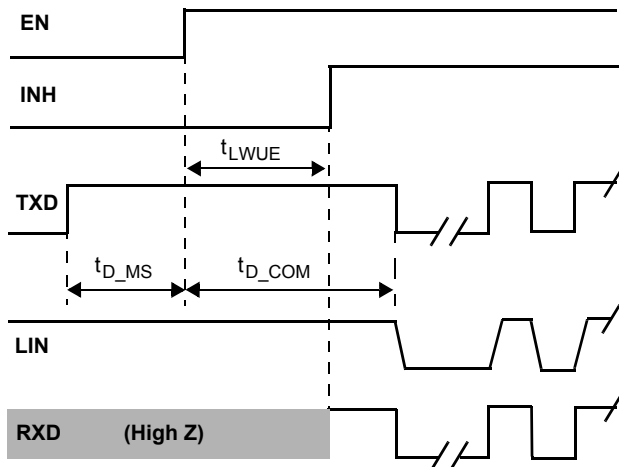

Figure 7. EN Pin Wake-up and Normal Baud Rate Selection (1.0 kbps to 20 kbps)
9. See Figures 7 and 8, 10.
13. See Figures 7 through 12, pp. 10–11.
The TXD input pin is the MCU interface to control the state of the LIN output. When TXD is LOW, LIN output is LOW; when TXD is HIGH, the LIN output transistor is turned OFF. The threshold is 3.3 V and 5.0 V compatible. The baud rate selection (normal or Slow mode) is done at device wake-up by the state of the TXD pin prior to a HIGH level at the EN pin (see Figures 7 through 12).